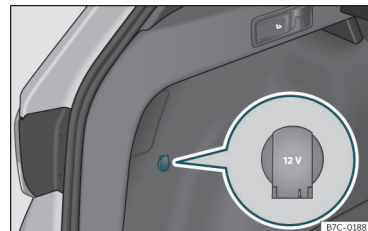

Fig. 134 Detailed view of the side trim in the boot: 12-volt power socket.
- Lift the power socket cover >>> **Fig. 134**.